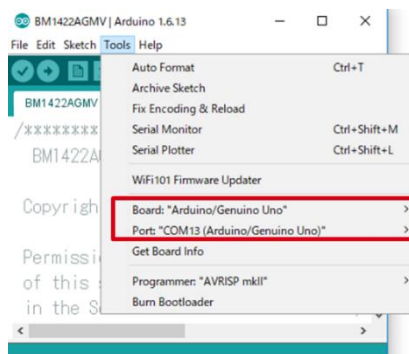

Figure 4. COM Port setting
- Select [Tools] and check the contents enclosed in the red frame. (Figure 4) Board should be "Arduino/Genuino Uno" and Port should be COMxx (Arduino/Genuino Uno). COM port number is different in each environment.